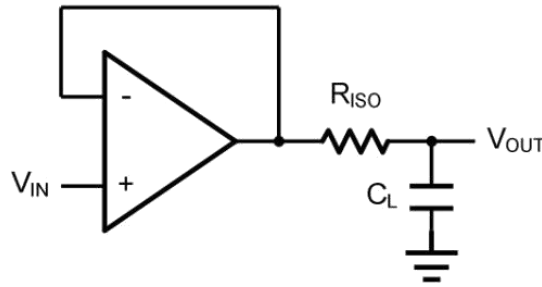
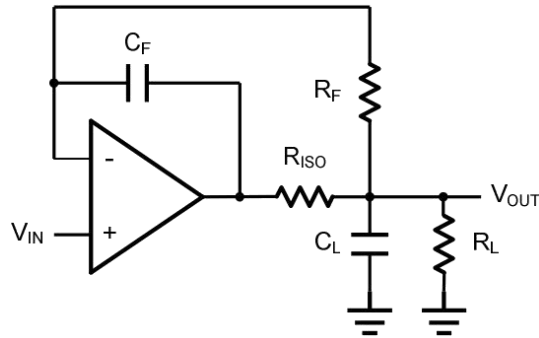

Figure 2. Indirectly Driving a Capacitive Load Using Isolation Resistor
Figure 3. Indirectly Driving a Capacitive Load with DC Accuracy
The AD86xx family is optimized for bandwidth and speed, not for driving capacitive loads. Output capacitance will create a pole in the amplifier's feedback path, leading to excessive peaking and potential oscillation. If dealing with load capacitance is a requirement of the application, the two strategies to consider are (1) using a small resistor in series with the amplifier's output and the load capacitance and (2) reducing the bandwidth of the amplifier's feedback loop by increasing the overall noise gain. Figure 2. shows a unity gain follower using the series resistor strategy. The resistor isolates the output from the capacitance and, more importantly, creates a zero in the feedback path that compensates for the pole created by the output capacitance.
The circuit in Figure 3 is an improvement to the one in Figure 2. R_F provides the DC accuracy by feed-forward the V_{IN} to R_L . C_F and R_{ISO} serve to counteract the loss of phase margin by feeding the high frequency component of the output signal back to the amplifier's inverting input, thereby preserving the phase margin in the overall feedback loop. Capacitive drive can be increased by increasing the value of C_F . This in turn will slow down the pulse response.